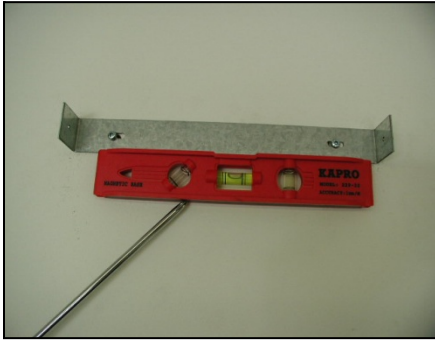

Figure 18
3. Mark the position of the duct cover-mounting bracket. Use reference **E** from Table 2 and measurements on page 22-23. Attach and secure duct cover-mounting bracket with two screws (not provided). Refer to Figure 18. **NOTE:** Inner duct cover will cover the duct cover-mounting bracket.